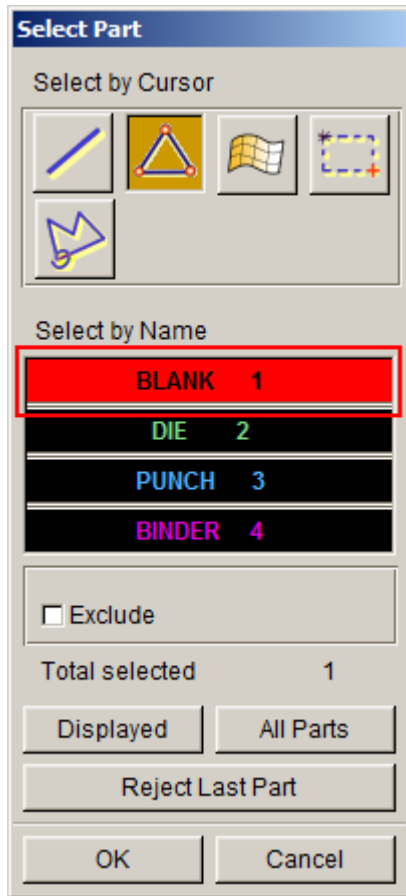

Figure 1.8 Select Part dialog box
- Click the **Add Part** button to select the **BLANK** part from the SELECT PART dialog box illustrated in Figure 1.8.